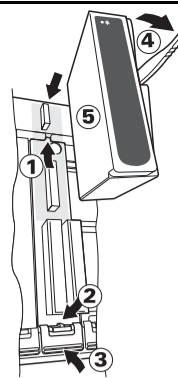

Figure 2: Fitting Modules
- As illustrated in Figure 2, locate the lug at the upper edge of the terminal unit into the slot in the base. (1)
- Press on the lower end of the terminal unit until it 'clicks' into place. (2)
- To remove a terminal unit, press the retention clip (3) to release the terminal unit and withdraw it from the slot in the backplane.